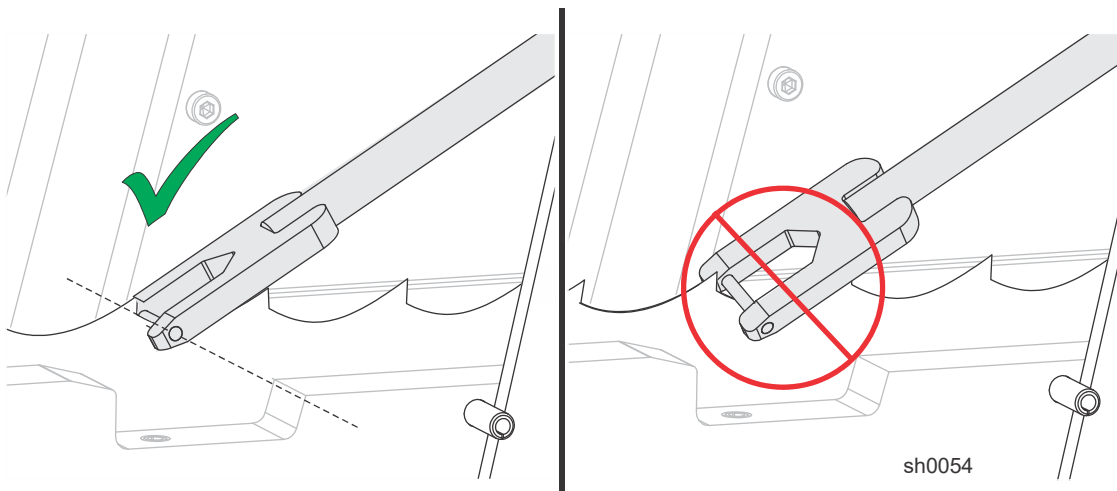

FIG. 3-7
- Place the push pawl pin into the gullet of the tooth just before the tooth to be ground with the advancement handle against the stop pin. See fig. 3-6. The advancement handle and pin should rest solidly, but not pushing the tooth. Make sure that the fork holding the pin remains perpendicular to the blade. See fig. 3-7.